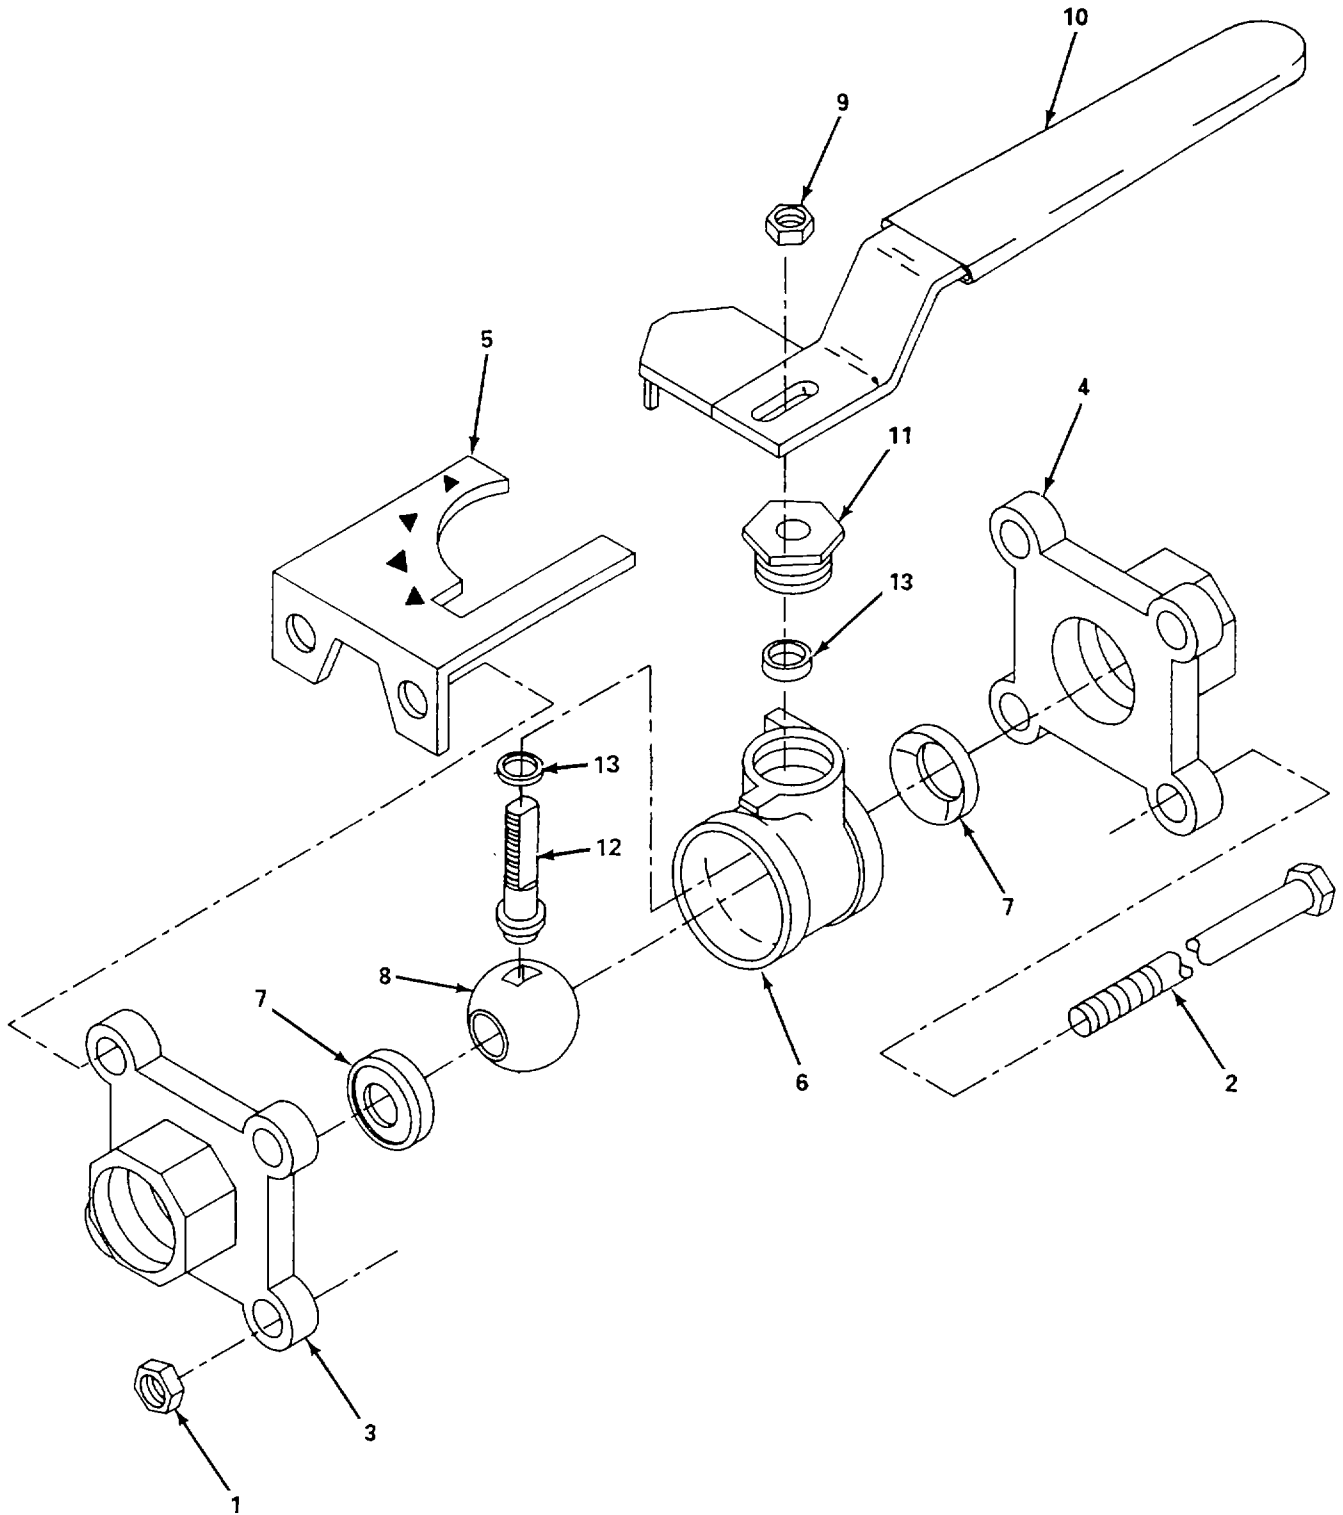

Figure 5-70. Ball Valve 1 1/4 Inch, Repair.
- (6) Install valve (7) and pipe (6) on manifold (4).
- (7) Install valve (3) and pipe (2) on manifold (4).
b. Repair. (figure 5-70).